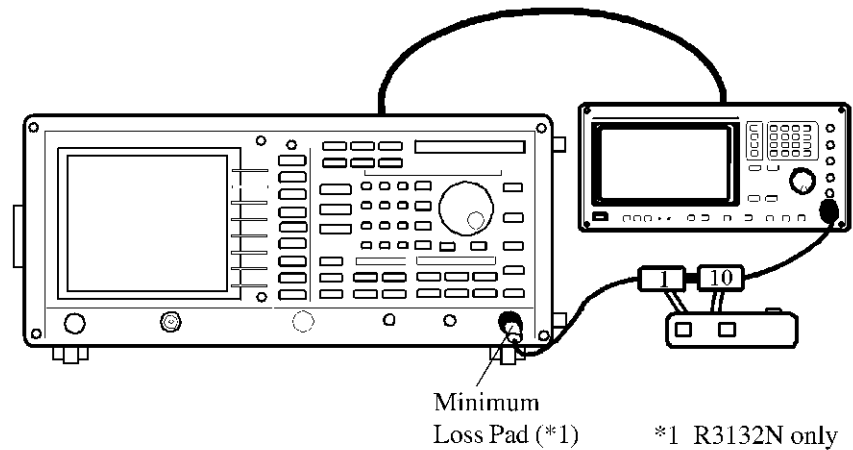

Figure 5-9 Setup of Input Attenuator Switching Accuracy Test (R3172/82)
1. Connect the step attenuators as shown in Figure 5-9.